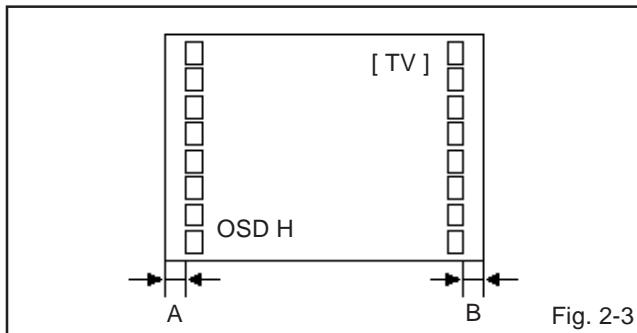

Fig. 2-3
4. Press the VOL. UP/DOWN button on the remote control until the difference of A and B becomes minimum. (**Refer to Fig. 2-3**)